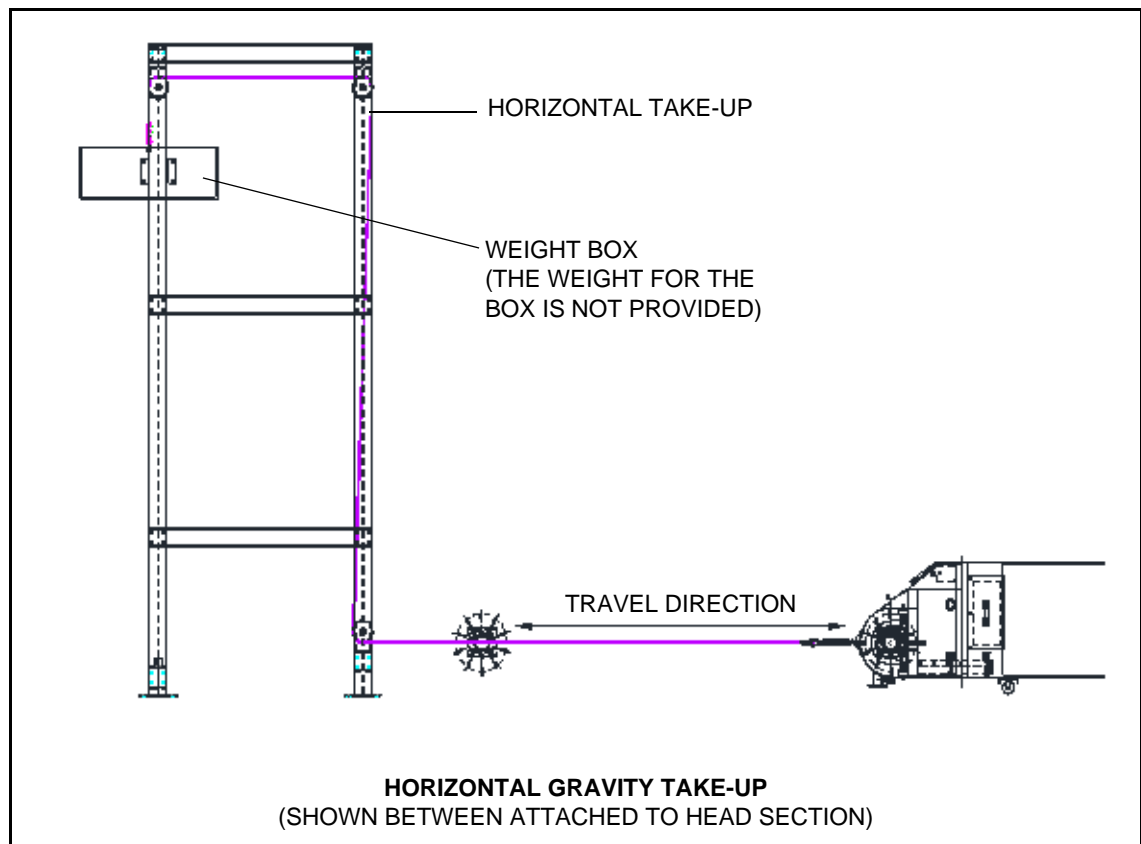

Figure 3.14
1. Install the horizontal gravity take-up assembly as illustrated in Figure 3.14. Refer to the general arrangement drawing.